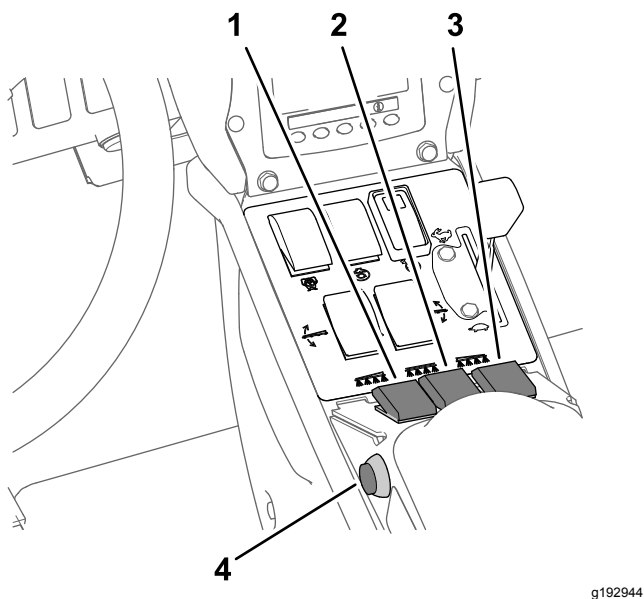

Figure 41
7. Set the spray section switch(es) to the ON position (Figure 41).
10. Drive at the desired speed and then set the master section switch to the ON position to begin spraying (Figure 41).
3. Set the master section switch to the OFF position; refer to Figure 41 in Spraying in the Application Rate Mode \(page 34\).
7. Set the individual section switches, as needed, to the ON position; refer to Figure 41 in Spraying in the Application Rate Mode \(page 34\).
9. Drive at the desired speed and then set the master section switch to the ON position to begin spraying; refer to Figure 41 in Spraying in the Application Rate Mode \(page 34\).